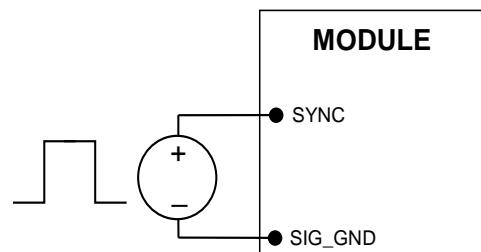

Figure 35. External source connections to synchronize switching frequency of the module.
The module switching frequency is capable of being synchronized to an external signal frequency within a specified range. Synchronization is done by using the external signal applied to the SYNC pin of the module as shown in Fig. 35, with the converter being synchronized by the rising edge of the external signal. The Electrical Specifications table specifies the requirements of the external SYNC signal. If the SYNC pin is not used, the module should free run at the default switching frequency.
1. By allowing the user to select among several pre-tuned compensation choices to select the one most suited to the transient response needs of the load. This selection is made via a resistor RTUNE connected between the RTUNE and SIG\_GND pins as shown in Fig. 35. Table 2 shows various pre-tuned compensation combinations recommended for various external capacitor combinations.